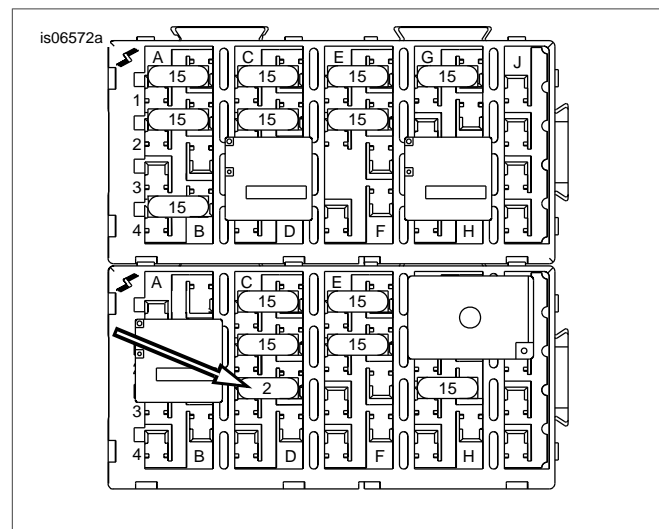

Figure 6. Install 2 Amp Fuse (2010- Later Models)
- b. See Figure 6. Install the 2 Amp fuse from the kit into the trunk light cavity (C3-D3) of the fuse block.
- i. See Figure 6. Install the 2 Amp fuse from the kit into the trunk light cavity (C3-D3) of the fuse block.